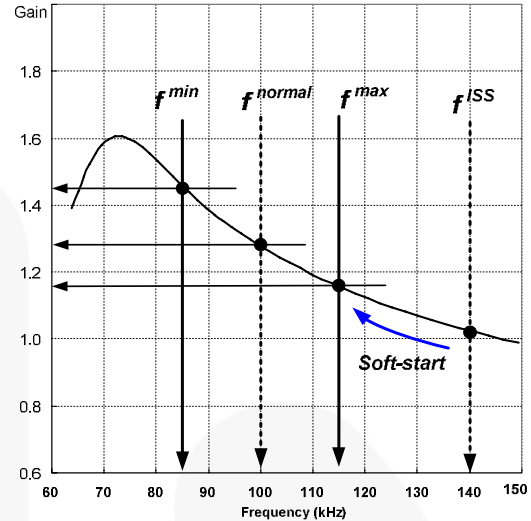
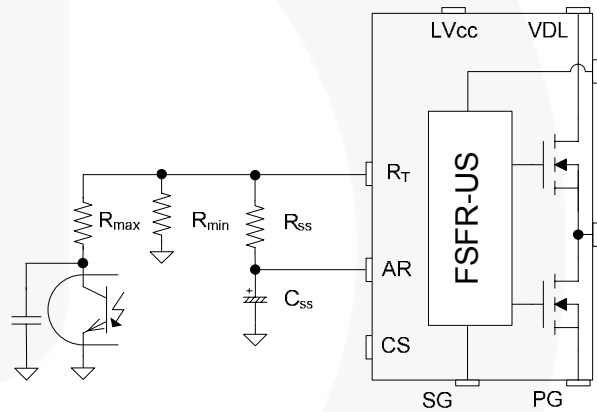

Figure 17. Resonant Converter Typical Gain Curve
Figure 18. Frequency Control Circuit
**3. Frequency Setting:** Figure 17 shows the typical voltage gain curve of a resonant converter, where the gain is inversely proportional to the switching frequency in the ZVS region. The output voltage can be regulated by modulating the switching frequency. Figure 18 shows the typical circuit configuration for the  $R_T$  pin, where the opto-coupler transistor is connected to the  $R_T$  pin to modulate the switching frequency.
To prevent excessive inrush current and overshoot of output voltage during startup, increase the voltage gain of the resonant converter progressively. Since the voltage gain of the resonant converter is inversely proportional to the switching frequency, the soft-start is implemented by sweeping down the switching frequency from an initial high frequency ( $f^{ISS}$ ) until the output voltage is established. The soft-start circuit is made by connecting R-C series network on the  $R_T$  pin, as shown in Figure 18. FSFR-US series also has an internal soft-start for 3ms to reduce the current overshoot during the initial cycles, which adds 40kHz to the initial frequency of the external soft-start circuit, as shown in Figure 19. The initial frequency of the soft-start is given as: